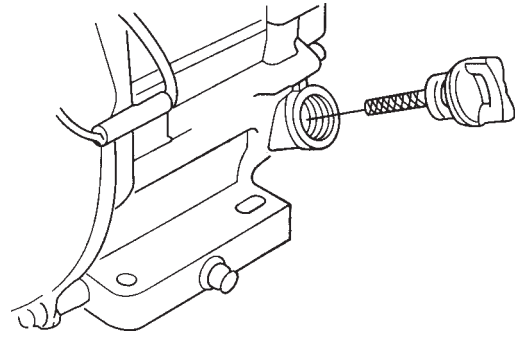

Figure 15. Engine Oil Dipstick (Removal)
2. Remove the filler dipstick from the engine oil filler hole (Figure 15) and wipe it clean.